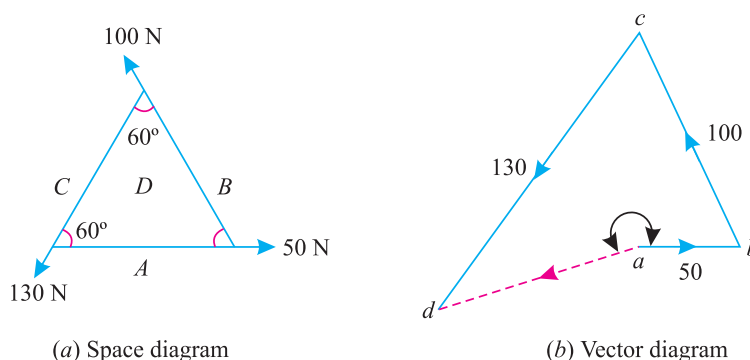

Fig. 2.8.
**Solution.** The system of given forces is shown in Fig. 2.8 (a)
First of all, name the forces according to Bow's notations as shown in Fig. 2.8 (a). The 50 N force is named as *AD*, 100 N force as *BD* and 130 N force as *CD*.
Now draw the vector diagram for the given system of forces as shown in Fig. 2.8 (b) and as discussed below :